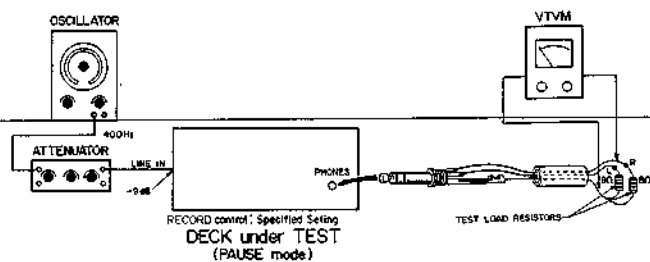

Fig. 30 Test Condition for Headphone Output Level Checks
- Connect test equipment to the deck as shown in Fig. 30. An 8 ohm non-inductive resistor should be used as the test load resistor.